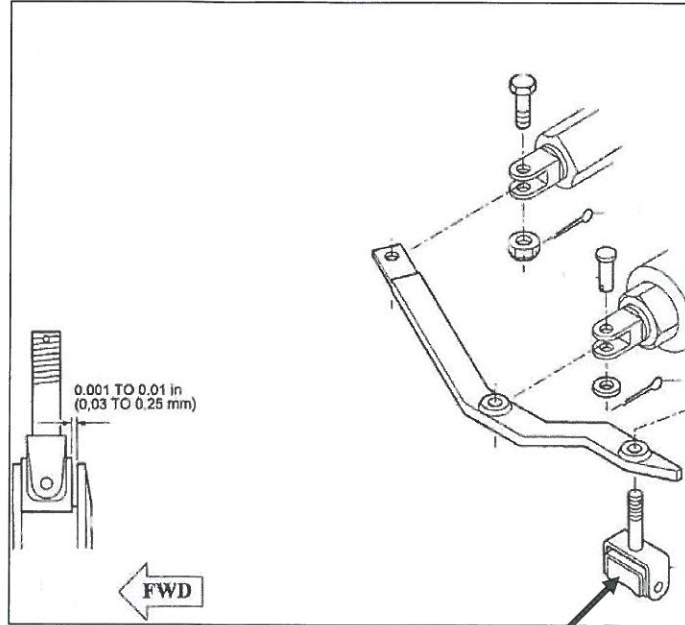

Figure 01
3. Remove reversing lever with carbon block. Discard the cotter pins. See Figure 01, 02, 04, 05.